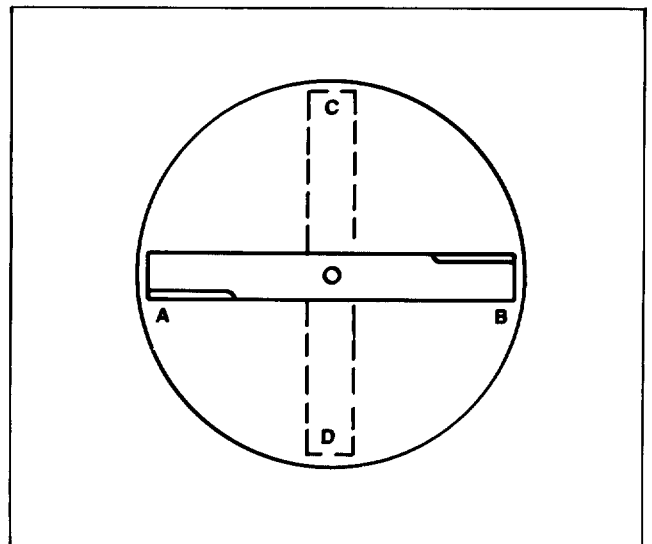
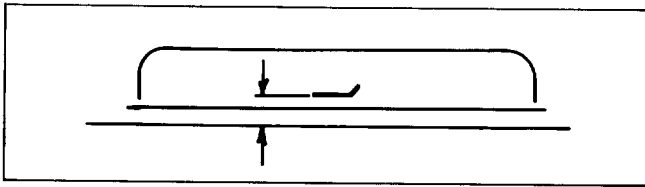

Figure 12
Figure 13
3. Position blade in the "A" position (Fig. 12) and measure from level surface to the bottom of the tip end of blade (Fig. 13).
4. Note measurement attained at "A", rotate blade to "B" position (Fig. 12), measure distance of blade to level surface and note dimensions (Fig. 13). Difference between dimension "A" and "B" should not exceed $1/8"$. If dimension exceeds $1/8"$, proceed to Steps 6 and add shims between spindle housing and bottom of cutting unit.